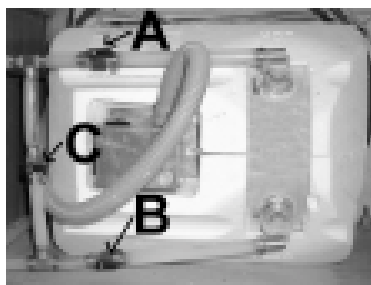

Fig. 4-16
3. Open water heater bypass valve C and close valves A and B. (Fig. 4-16)